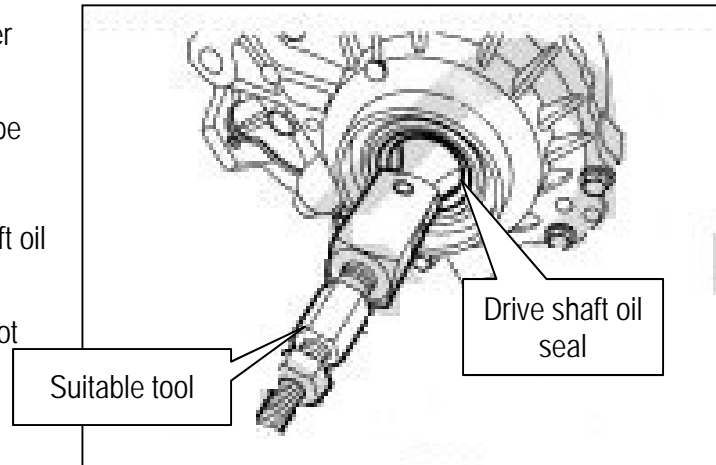

Figure 5
2. Using a suitable tool, remove the drive shaft oil seal (Figure 5).